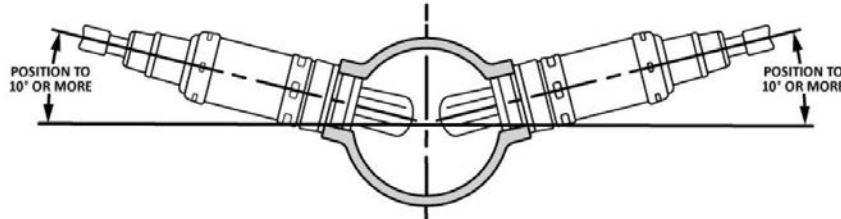

Figure 2
2. Ensure the location for the sensor is at the angle in **Figure 2**. This will help prevent condensation in the exhaust tubing from entering the sensor. The sensor can be mounted on either side of the tubing.
3. Locate a place in the exhaust to drill a 3/4" hole. Make sure to allow enough clearance for an O2 sensor and wiring harness. It is important to keep the O2 bung (**Item 2a**) at least 12 inches from open exhaust. Ensure the location for the sensor is at an angle (**Figure 2**). This will help prevent condensation in the exhaust tubing from entering the sensor. The sensor can be mounted on either side of the tubing.
4. Mark the center of the casting on the exhaust tube and drill a 3/4" hole. Deburr the hole after drilling (**Figure 2**).